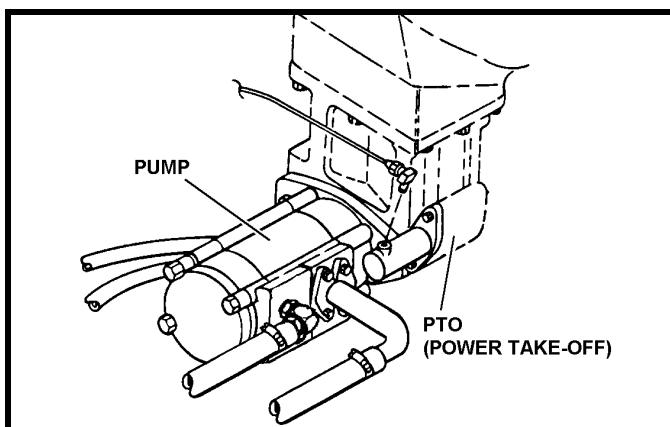

FIGURE 3.1
- 3.1** Your new wrecker is fully hydraulic. It receives its power by means of a Power Take-Off/Pump combination mounted to the vehicle transmission . Since the pump is attached to the PTO, no drive line or universal joint is required. See Figure 3.1.